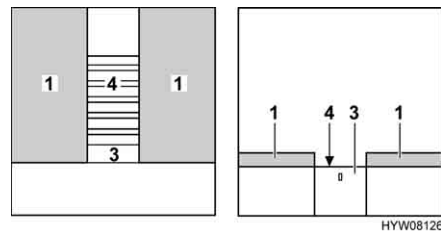

Fig. 137 During conversion
- If a locking mechanism is attached to the extension (Fig. 137,3): Reach behind the surround and unlock the extension.
- Pull out the slatted frame (Fig. 137,4) and/or the extension as far as it will go.